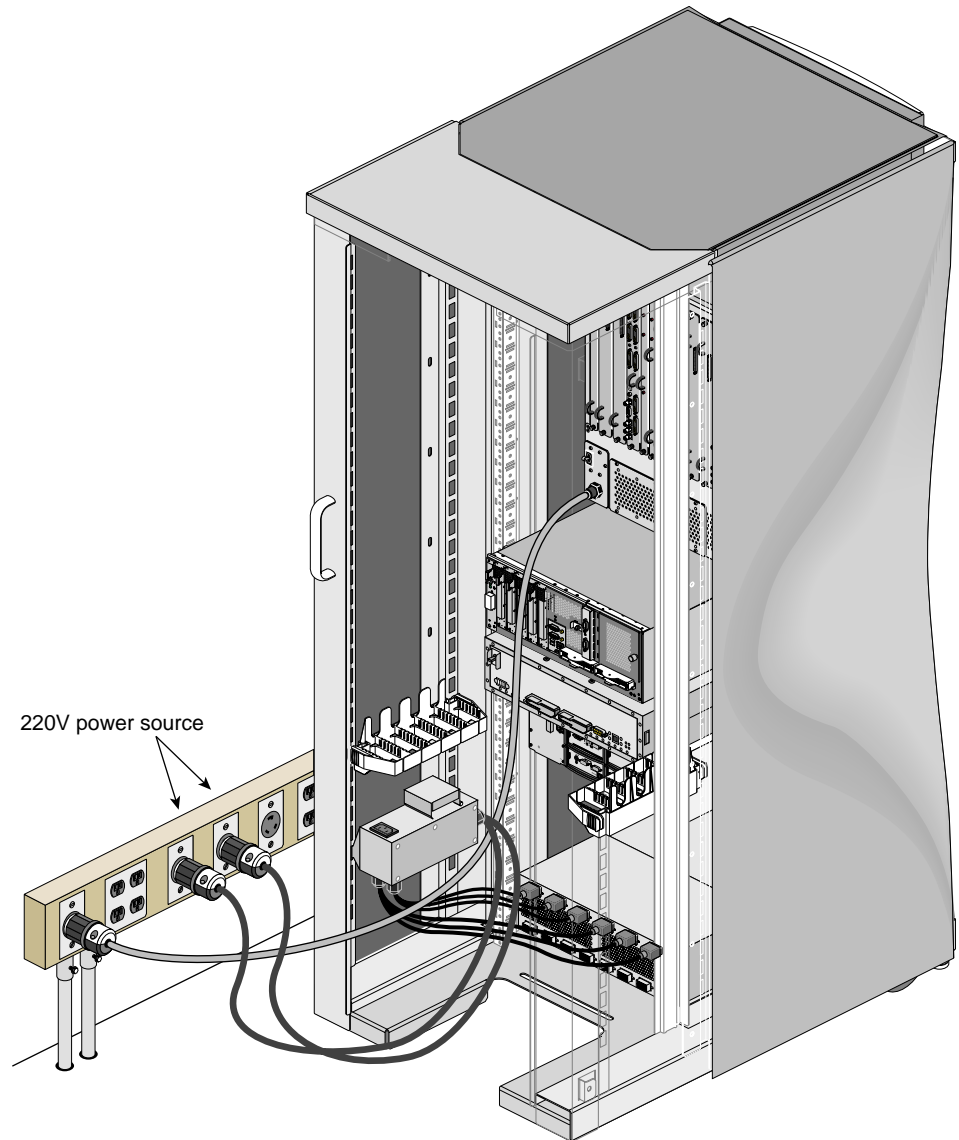

Figure 4-4 Connecting the PDU Power Cable
- Between the PDU or PDS and the power receptacle (see Figure 4-4.)